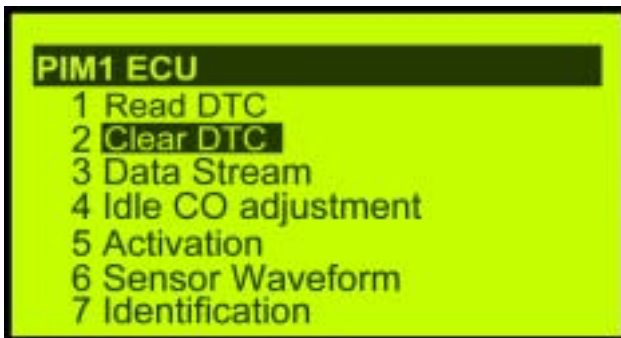
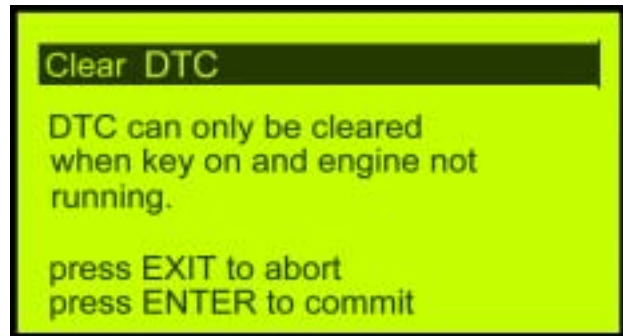

Fig 15
Fig 15-1
5. With the ▲▼ cursor to select “2. DTC Code Erase” (LCD background changed into black), (as fig 15), press “ENTER” key to erase the DTC codes (as fig 15-1, 16, 17). This function can be conducted only when the ignition switch is turned on and the engine stopped. Press “EXIT” key to back to the main menu.